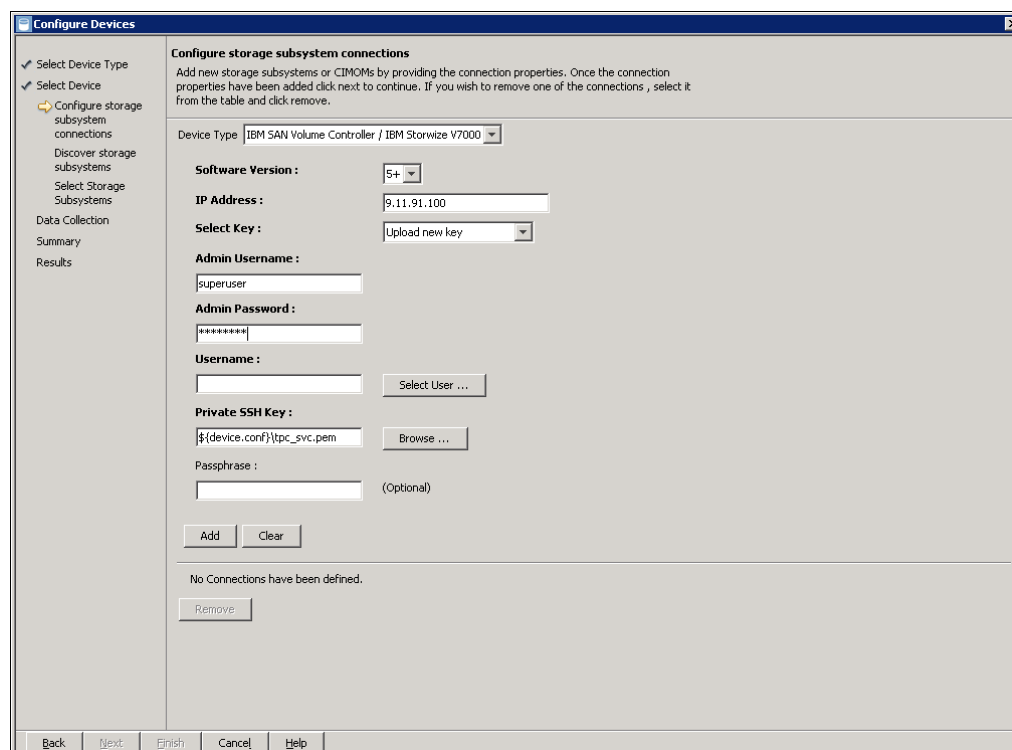

Figure 12-43 Configure storage subsystem connections
5. Select or enter the following values to connect to the IBM Storwize V7000 system (shown in Figure 12-43):